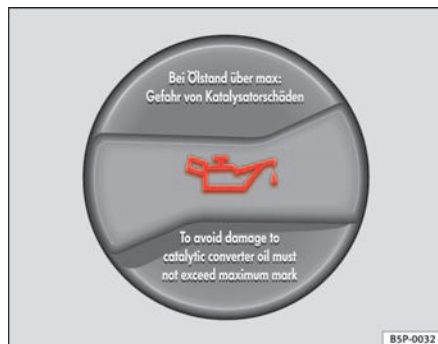

Fig. 161 In the engine compartment: Engine oil filler cap
- Unscrew cap from oil filler opening ⇒ fig. 161.